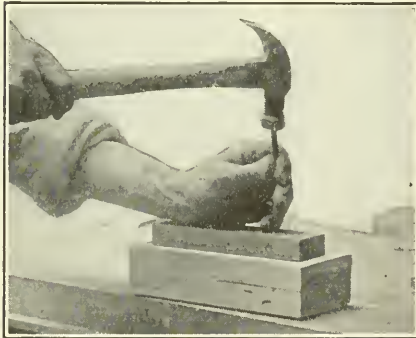
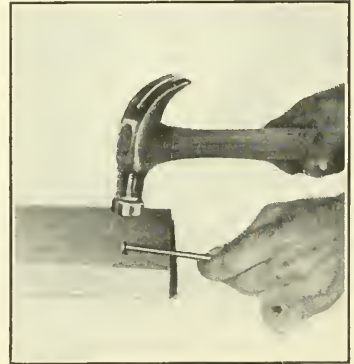

Fig. 181
Fig. 182
68. The Nail-set or Punch is to sink nail-heads below the surface. Hold it firmly against the little finger, with the latter on the wood close to the head of the nail (Fig. 181), lest the nail-set slip off and deface the wood. The end must not be allowed to become rounded. If necessary, the head of a nail can be used (Fig. 182).